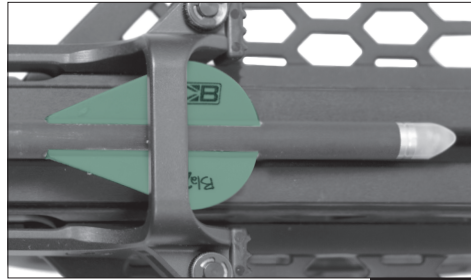

FIGURE 21
4. Align the CP400 Select arrow so that the cocking vane (the odd colored vane) is down in the flight groove and inserted through the Riser Bridge (Fig. 21).